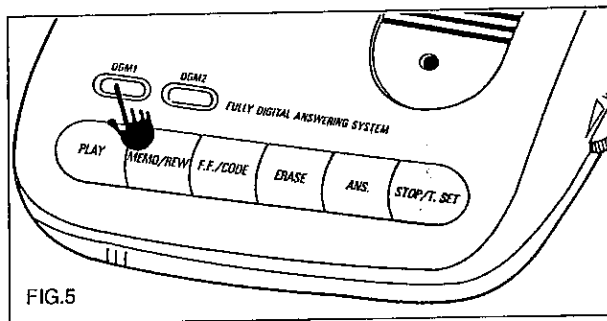

FIG.5
1. Press and hold OGM1 button until a long beep tone. The counter shows A1 then counts down from 32. (FIG.5)